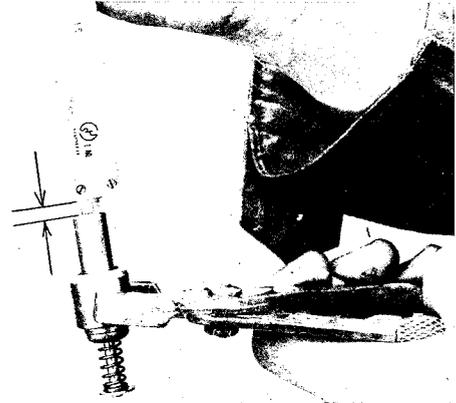

Fig. 2-7 Checking by-pass valve
2. Soak the by-pass valve in hot oil of 75°C ~ 80°C (167°F ~ 176°C). If the protrusion of piston is more than 5 mm (0.2 in), the by-pass valve is normal. (Fig. 2-7)